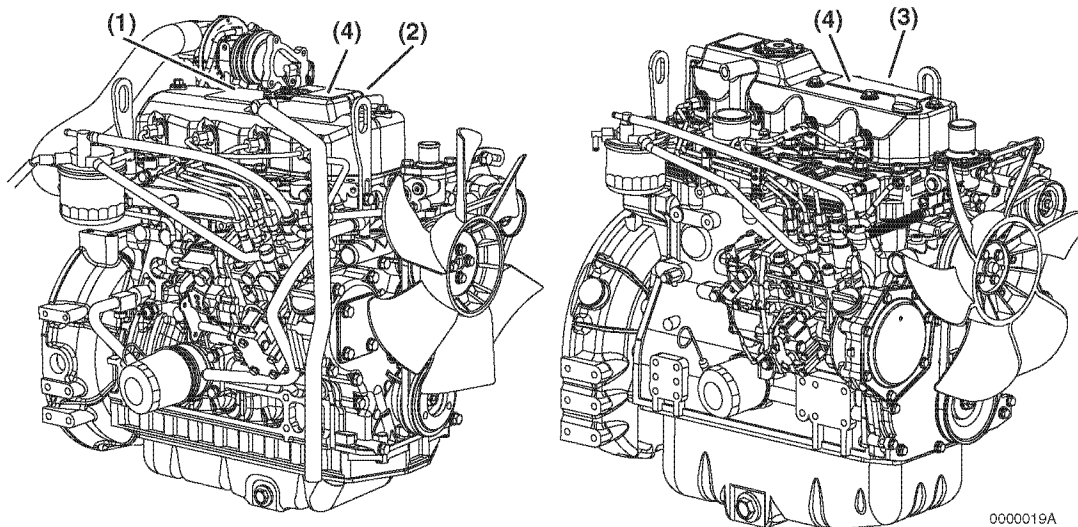

Figure 4
Figure 4 shows the location of regulatory and safety labels on Yanmar TNV series direct injection model engines.
The typical location of the emission control information label is shown for 4TNV84, 4TNV84T and 4TNV88 engines **(Figure 4, (1))**.
The typical location of the emission control information label is affixed to the exhaust side of the rocker arm cover for 3TNV82A, 3TNV84, 3TNV84T and 3TNV88 engines **(Figure 4, (2))**.
The typical location of the emission control information label is affixed to the exhaust side of the rocker arm cover for 4TNV94L, 4TNV98, 4TNV98T, 4TNV106 and 4TNV106T engines **(Figure 4, (3))**.
Typical location of the engine nameplate is shown for various Yanmar TNV engines **(Figure 4, (4))**.